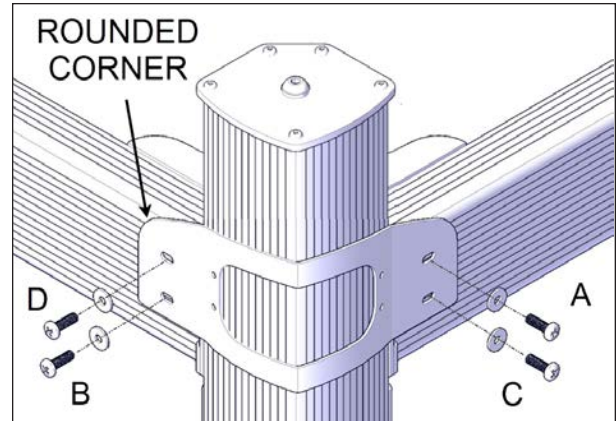

FIGURE 63: INSTALLATION PATTERN FOR CORNER BRACKET SCREWS ATTACHED TO THE C-CHANNELS
26. Install the first outer corner bracket as shown in Figure 63. Fasten the bracket to the cover C-Channels with four painted Phillips M6 x 20mm bolts and 1/4" painted washers. Install the first screw on position A and for the remaining screws, keep following the pattern shown in Figure 63.